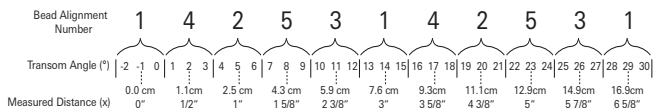
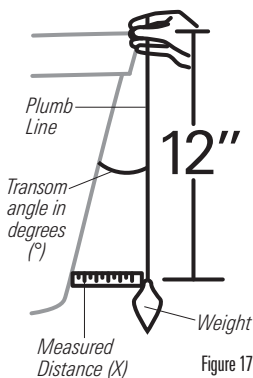

Figure 16
Figure 17
- 1a. **If you already know your transom angle**, refer to the chart below for the initial position to use to set the ratchets (Figure 16). If your transom is angled at 14 degrees (a common transom angle for many boats) use position 1 for the ratchets. In either case, go to step 2.
- 1b. **If you do not know your transom angle**, measure it using a plumb line (weighted nylon string or monofilament line) exactly 12 inches (30.48 cm) long. Hold the top of the plumb line against the top of the transom with your finger, and wait until the line hangs straight down (Figure 17). Using a ruler, measure the distance from the **bottom** of the plumb line to the back of the transom, then use the chart (Figure 16).
NOTE: It is important to take your measurement in the location shown in Figure 17, from exactly 12 inches (30.48 cm) down from the top of the transom.